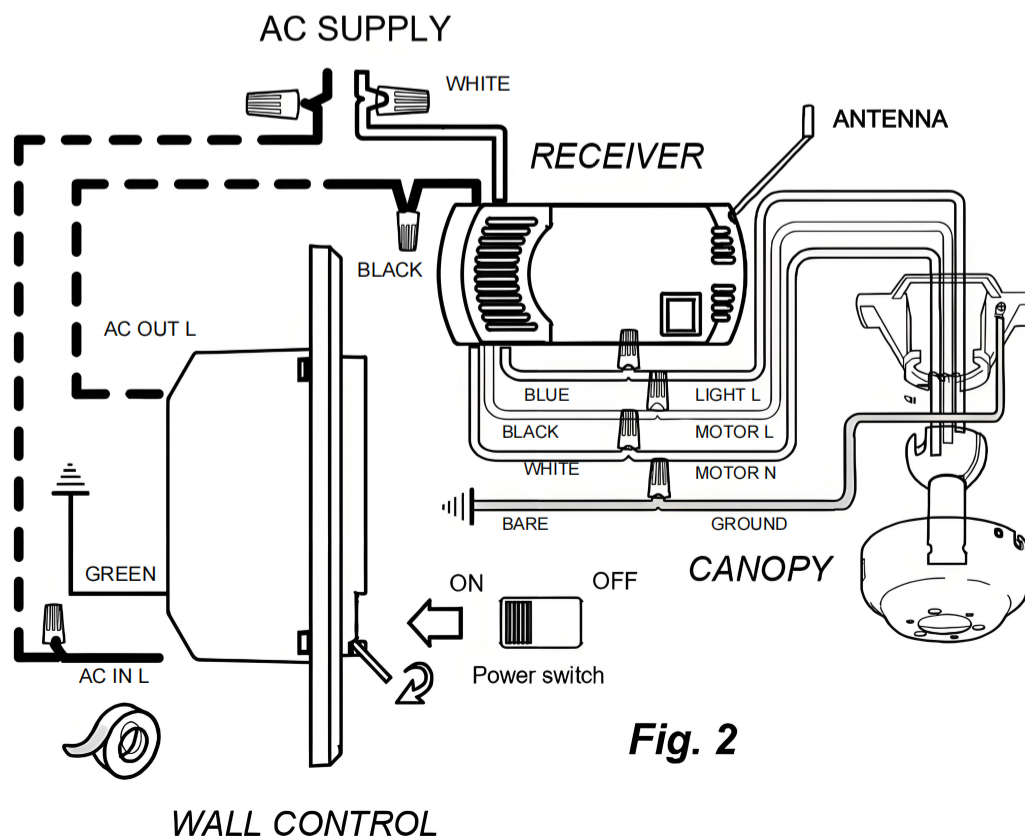

Fig. 2
- F. Using the wire connectors supplied, make wiring connections as follows: (Figure 2)
Remove wall plate, disconnect and remove the toggle switch from wall outlet box. Using the wire connectors provided make the electrical connections to the wall control as shown in Figure 2.